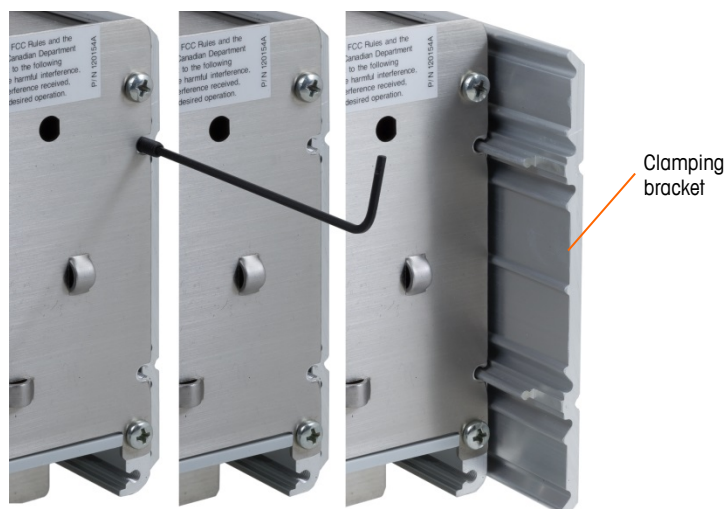

Figure A-8: Clamping Bracket
1. Loosen and remove the four Allen-head screws that secure the clamping brackets to the side of the housing (see Figure A-8). Use the 2mm Allen wrench included with the terminal.